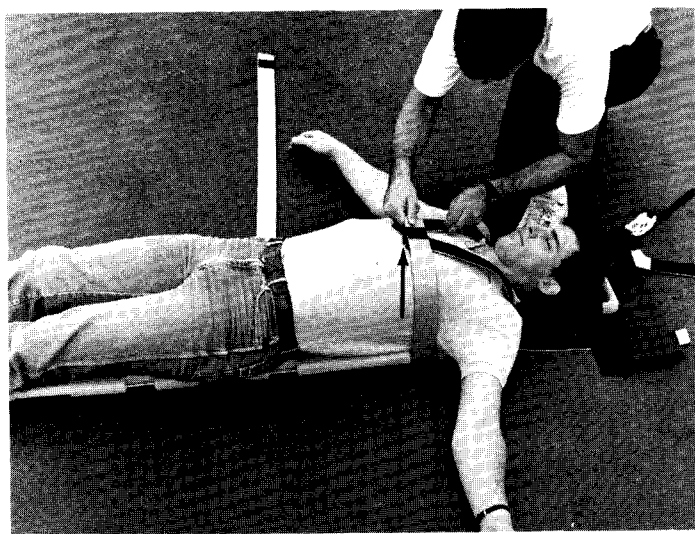

Figure 4.1
4.1 Adjust the chest strap first. Avoid overtightening the chest straps as it may obstruct chest expansion. (Figure 4.1)